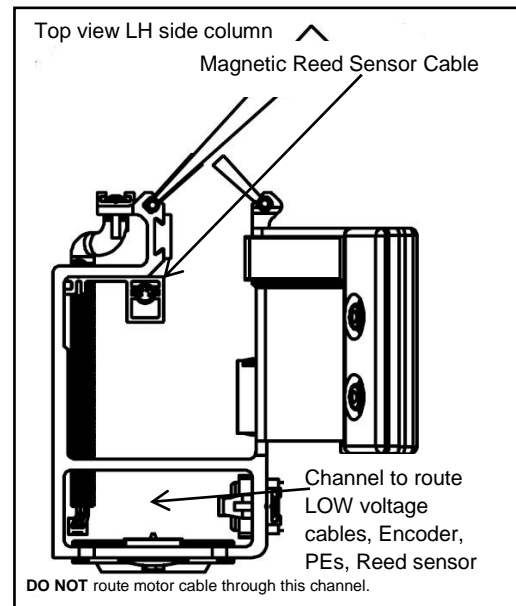

Figure 34
3. Route the encoder and magnetic reed sensor cables (left & right) down to the access hole in the side column cover. (See Figure 34.)